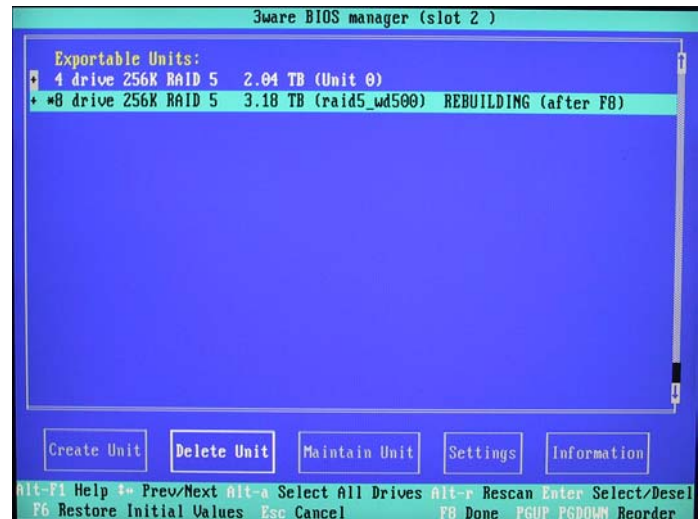

Figure 6-6
- 6) Using the up/down arrow keys, highlight the 8-drive array and use the <Enter> key to select it. You will now observe an asterisk (*) character next to this drive (Figure 6-6)